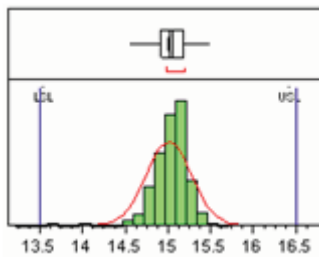
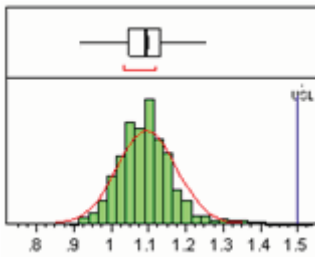

Figure 1. Gain @ 2.4 GHz , V_d 3V; V_{bypass} 1.8 V, LSL=13.5, Nominal=15.0, USL=16.5
Figure 2. NF @ 2.4 GHz , V_d 3V; V_{bypass} 1.8 V, Nominal=1.1, USL=1.5
5. Measurements at 2.4GHz obtained using demo board described in Figure 1, with component values on Figure 2 (2.3 – 2.4 GHz)